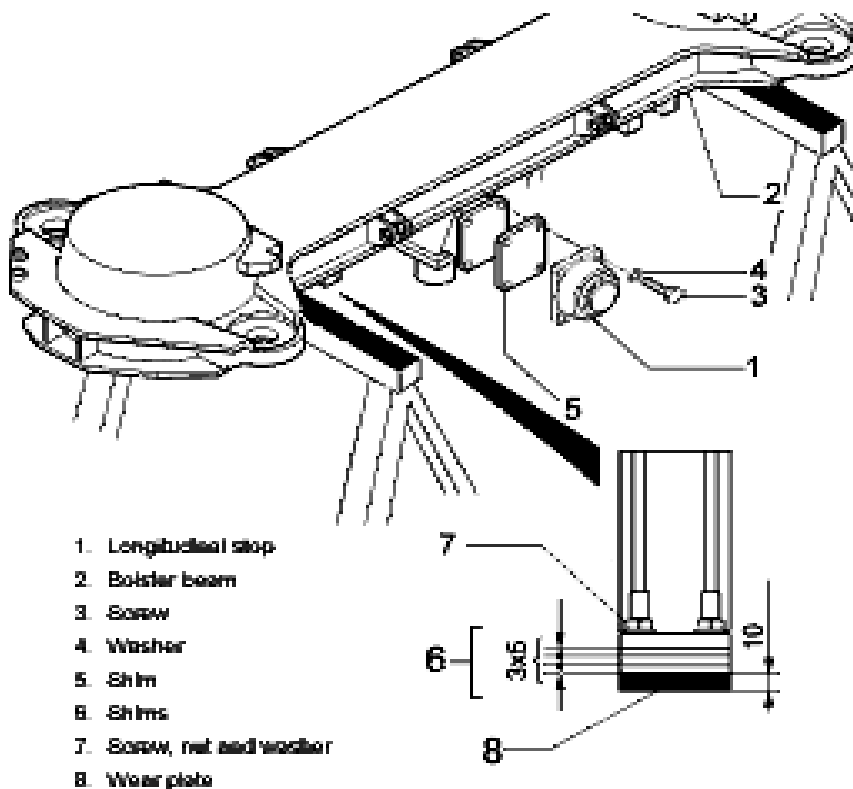

Fig. 3.9 Removing Bump Stops and Shims from the Bolster Beam
Link the crane equipment to the bolster beam and begin lifting it with care. The above procedure is needed to mount the springs again in the same position and location they were before removal. The spring packs (Fig. 3.9) of the secondary suspension can then be dismantled in the following manner: Remove the upper rubber ring (8). Remove the upper centering disc (1) together with the rubber spring (5), the washer (4) and the screw (2). Extracting the screw (2) it is possible to separate items (1), (2) and (5). Then it is possible to remove the inner spring (6), the outer spring (7). Extract the threaded pin (3) in order to remove the lower centering disc (1) and the lower